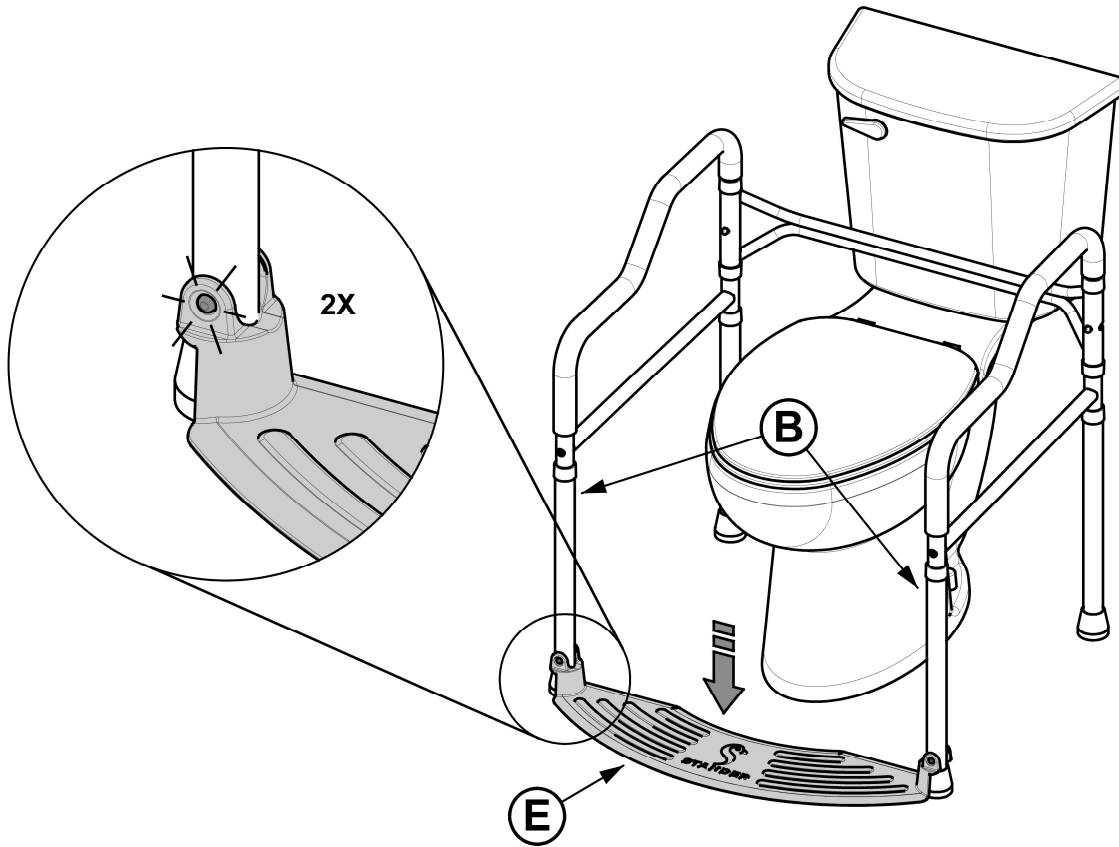

FIGURE 5
5. Install footplate (E) onto the double-headed spring pins of legs (B) as shown in *FIGURE 5*.